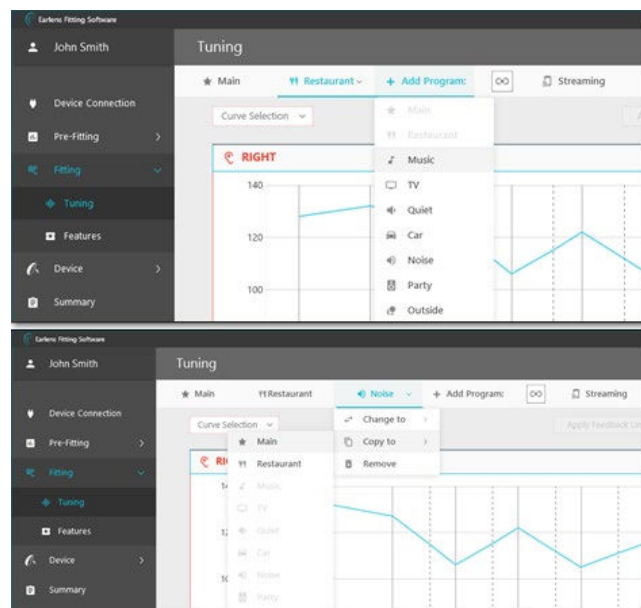

Figure 41: Add or copy programs
- Programs can be swapped and copied from one to another using the ‘Copy to’ option in the drop-down menu for each program slot. (Figure 41).